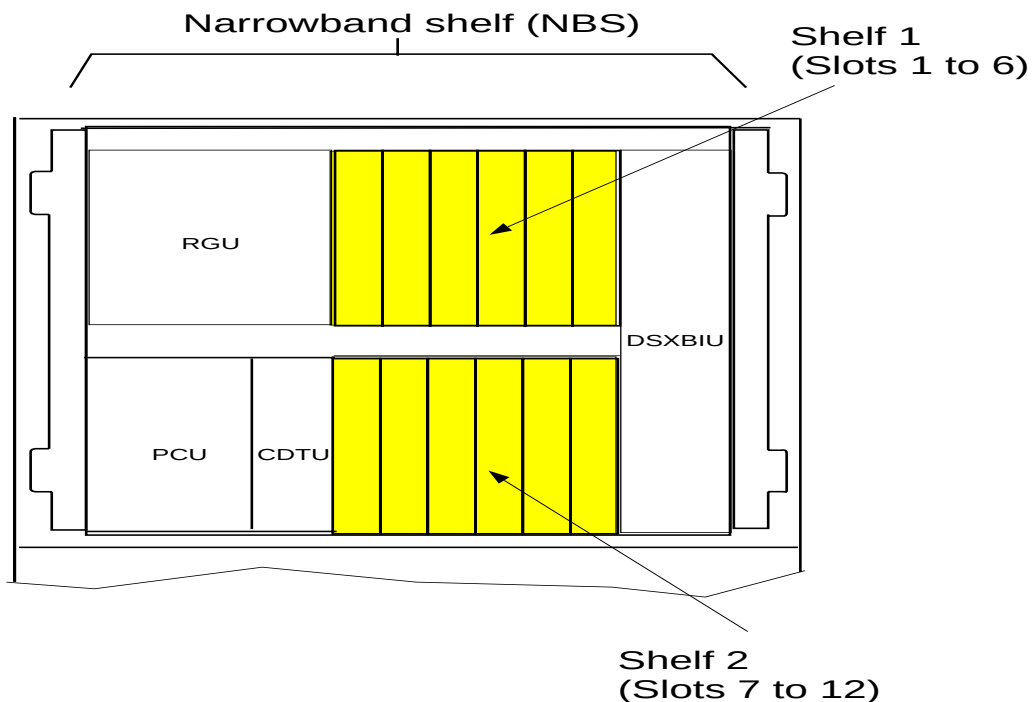

Figure 1 – Front View of Narrowband Shelf
This procedure tells how to install channel units in the NBS (Figure 1).
3. Locate the two channel unit shelves in the NBS (Figure 1).